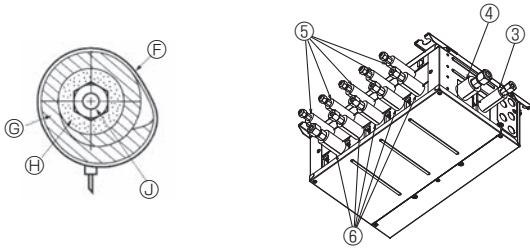
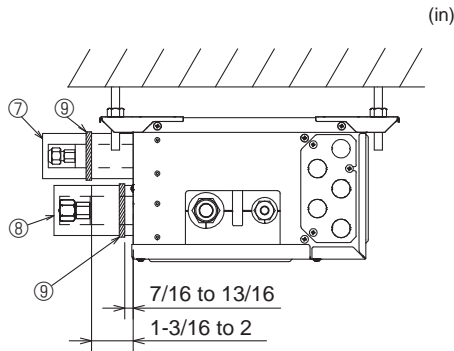

Fig. 7-3
Fig. 7-4
- Insulate the liquid and gas pipes of the branch box by attaching the heat-resistant polyethylene foam tightly around them. (Fig. 7-3)
- (5) Press the pipe covers ③ and ⑤ on the liquid piping against the unit and wrap to hold in place. (Fig. 7-3)
- (6) Press the pipe covers ④ and ⑥ on the gas piping against the unit and wrap to hold in place. (Fig. 7-3)
- (7) Apply the supplied bands ⑨ at a position 7/16-13/16 in (10 - 20 mm) from each end of the pipe covers (③④⑤⑥).
- (8) If the indoor unit is not connected, fit the supplied pipe covers (with caps, ⑦ and ⑧) to the branch box refrigerant piping connections against the unit to prevent condensation dripping from the pipes. (Fig. 7-4)
- (9) Clamp the pipe covers (⑦⑧) in place with the supplied bands ⑨.
### 7.2. Handling of ports that are not connected to outdoor unit (Fig. 7-4)